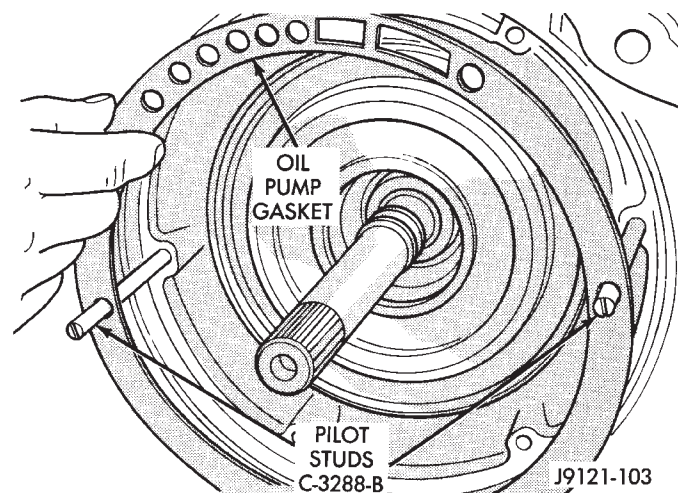

Fig. 148 Installing Oil Pump Gasket And Pilot Studs—46RH
(28) Tighten front band adjusting screw until band is tight on clutch retainer. Verify that front/rear clutch assembly is still properly seated **before** tightening band.
(29) Install oil pump Pilot Studs C-3288-B in case (Fig. 148).
(30) Install new oil pump gasket on pilot studs and seat it in case. Be sure gasket is properly aligned with fluid passages in case (Fig. 148).